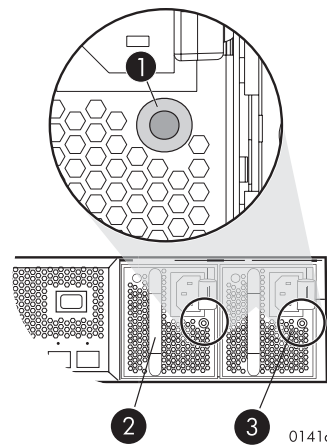

Figure 1 Power supply status indicator
- Check the power supply status indicator. See Figure 1. It should be amber or off.